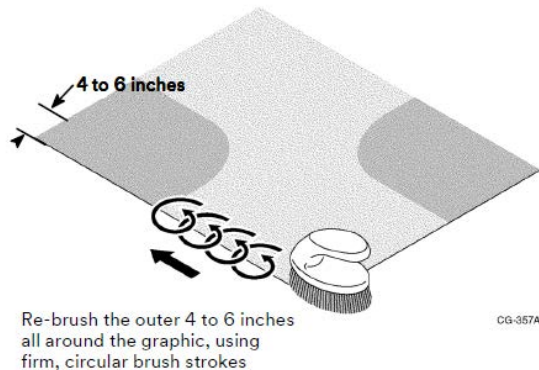

Figure 2. Re-brushing
4. Re-brush all edges and corners of the graphic panel using a firm, circular motion with a rivet brush. This works the adhesive into the application surface to provide better bonding and a good edge seal. See Figure 2.